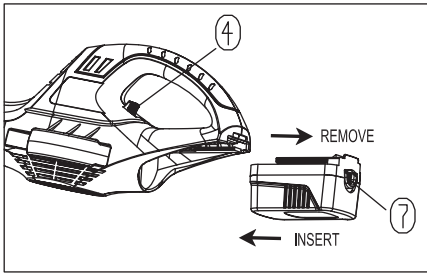

Fig.5
3. To remove or install battery pack (fig. 5)